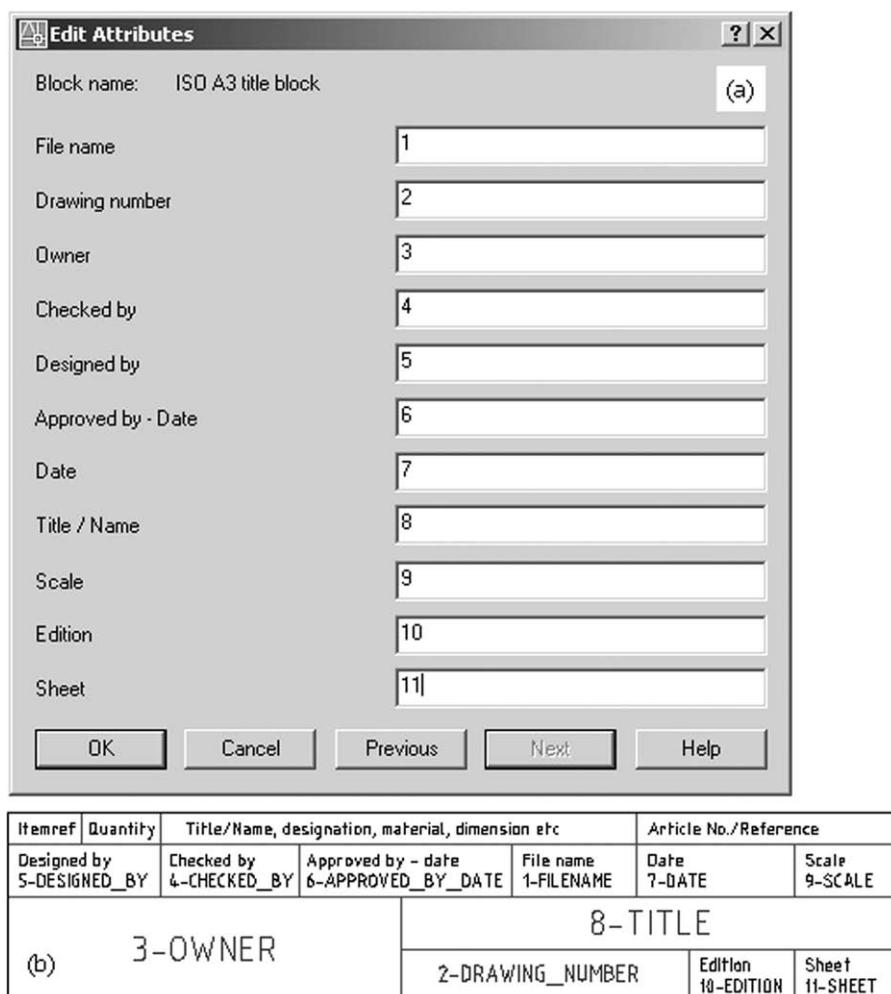

Figure 34.2 The Edit Attribute dialogue box and ISO A3 Title Block with numbered attributes.
e) Figure 34.2 displays the:
2. 11 attributes defaults replaced by numbers 1–11 for reference – Figure 34.2(a)
3. actual title block with the corresponding 11 numbered attributes – Figure 34.2(b).